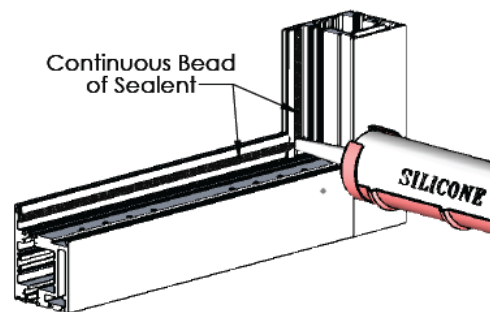

Figure 33:
2. Apply a 3" bead of compatible sealant from each corner on the inner flange of the panel. A continuous bead of sealant is recommended when higher water performance is required. Inside glazed panels require a continuous bead of sealant and/or a silicone cap bead on the exterior at the edge of the glass (Figure 33).